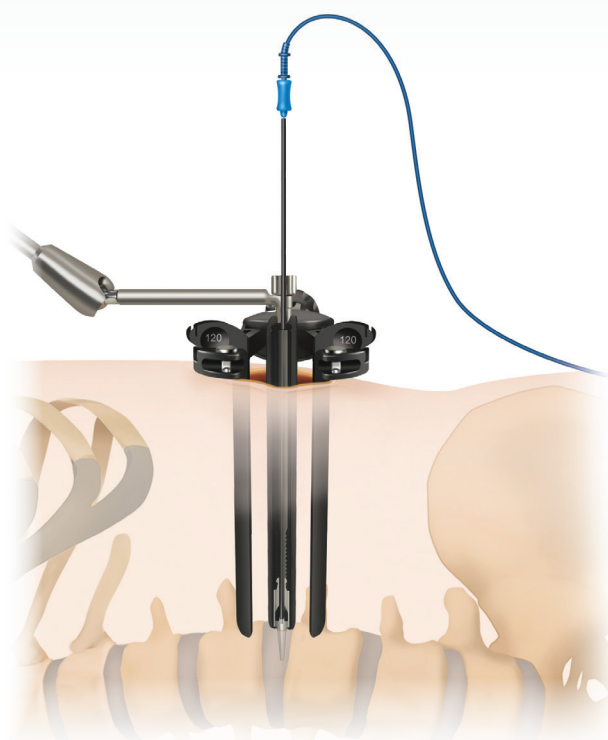

Figure 28
- The cranial/caudal blades are designed with two channels in which the monopolar probe, or a similar probe, can be inserted (**Figure 28**).